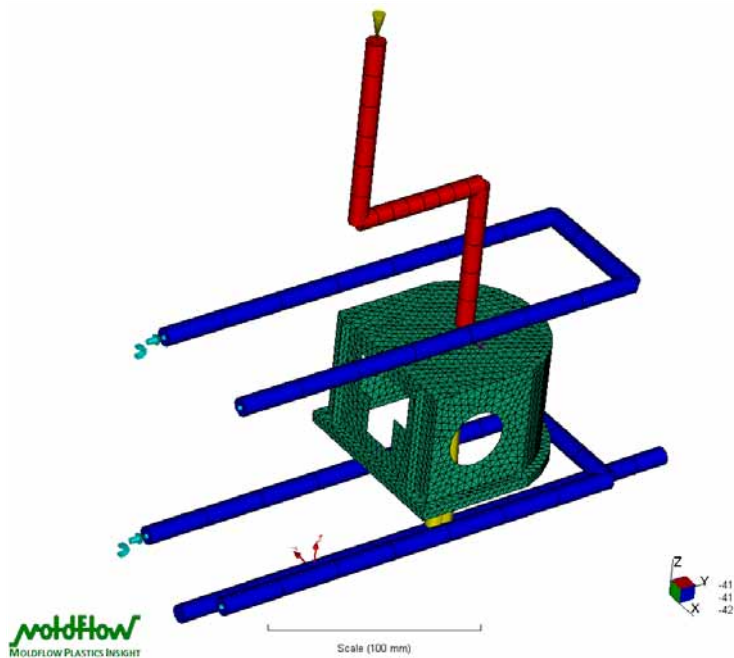

Figure 52: Completed Speedo model
- The final mesh model should look like Figure 52.